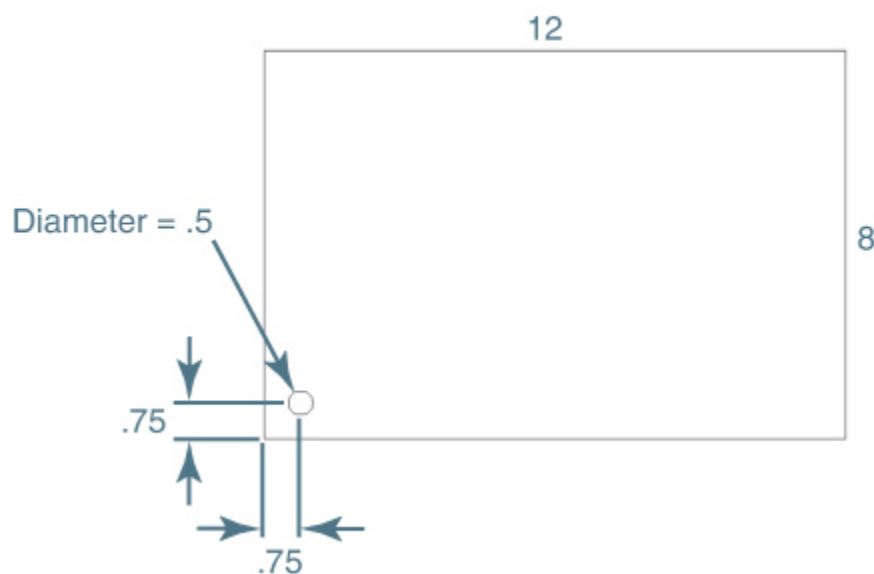

Figure 8-8
- 2 Draw the geometry shown in Figure 8-8.